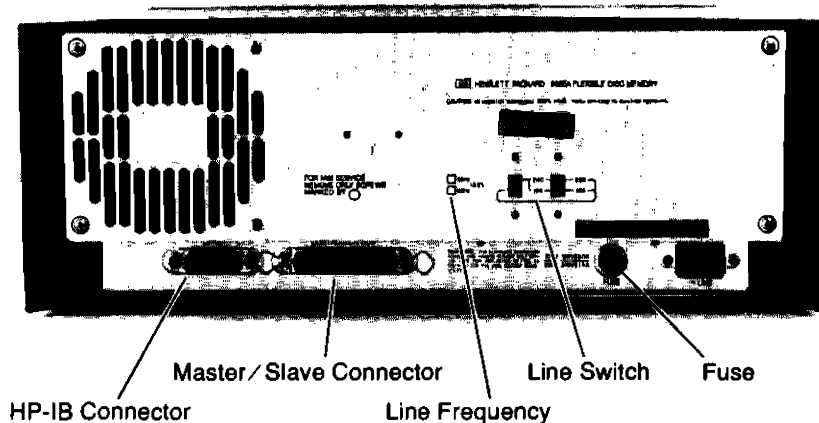

Figure 1-5. 9895A Rear Panel
5. Connect the ac power cord to the power input connector on the back of the unit (see Figure 1-5) and to an appropriate ac power source.
9. If connecting the 9895A to an existing HP-IB bus, plug one end of the 8120-2718 cable into the socket on the rear panel of the 9895A and the other end into the socket on a nearby mass storage device (see Figure 1-5).
If connecting directly to a mainframe, set the select code on the interface body and plug it into the socket on the rear panel of the mainframe. Then plug the other end into the socket on the rear panel of the 9895A (see Figure 1-5).
If connecting a slave unit, use the 9895-61606 cable to connect the slave to the master (see Figure 1-5).
8. Plug one end of the 8120-2718 cable into the socket on the rear panel of the 9895A (see Figure 1-5). Plug the other end into the General Interface Controller (Part Number 31262-60001).